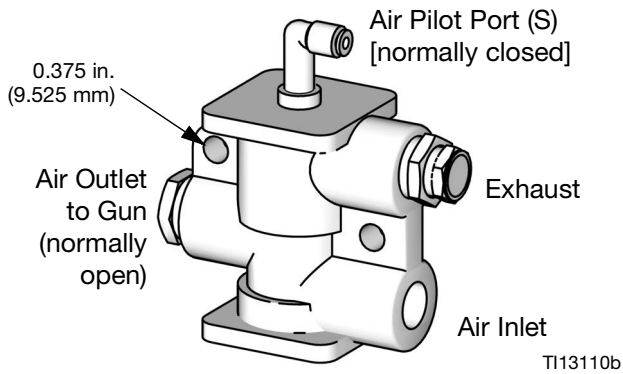

FIG. 22: Air Safety Shutoff Valve
1. See FIG. 13. Connect a 1/4 npt atomizing air line (D) from the AFS outlet nipple (103) to the air inlet port of the air safety shutoff valve (E, also see FIG. 22). Connect another length of atomizing air line (D) from the safety valve outlet port to the gun (G) air inlet.
4. From the **S** fitting to the atomizing air safety shutoff valve pilot port (FIG. 22).